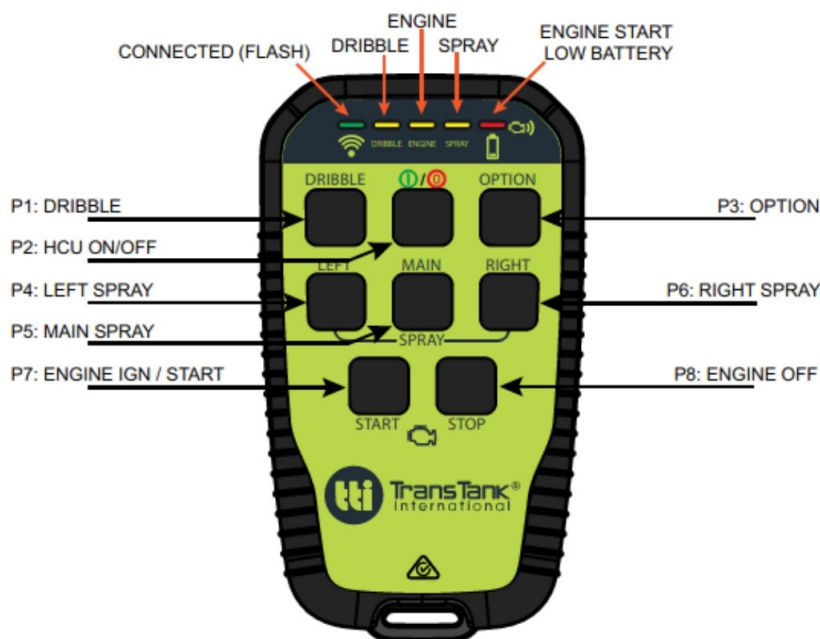

Figure 5 – Remote Control Unit – detailed description
The functions of the remote control unit must be fully understood before operating the FloodRite. Figure 5 identifies all controls and indicators on the remote control unit, with their descriptions in the following table.
5. Turn ON the remote control unit by pressing the ON/OFF button (refer to Figure 5).